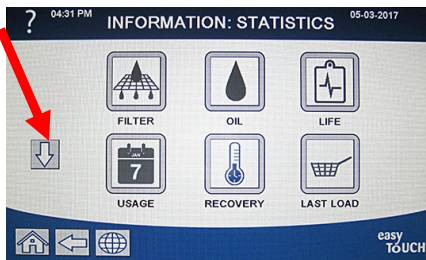

Figure 38
- Press the down arrow button (see Figure 38).